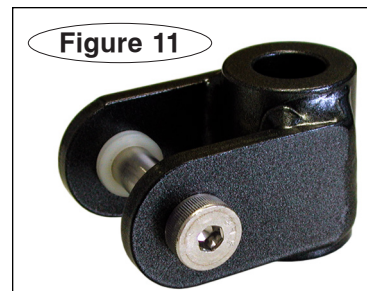

Figure 11
15. Determine which version of swivel ears are on the tow bar – the swivel ears were redesigned in 2014, to fit either side of the tow bar. A photo of the newer swivel ear is shown in Figure 11.
If the swivel ears on your tow bar resemble those in Figure 11, skip step 16 and the warning that follows it.